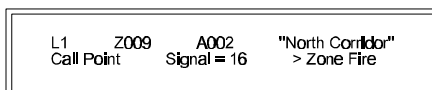

Figure 31: Address Information Display
- Press **Change** or **No** to move to the next choice (see Table 6 for an explanation of device actions). To accept the choice press **Enter**. The alphanumeric display changes to the Address Information Display and shows the choice entered in the lower right (see Figure 31).